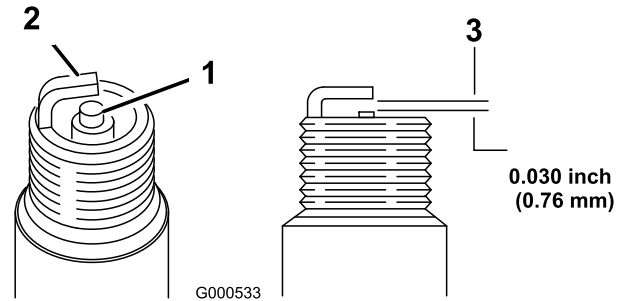

Figure 50
2. Check the gap between the center and side electrodes (Figure 50) and bend the side electrode, if the gap is not correct.
1. Look at the center of the spark plugs (Figure 50).